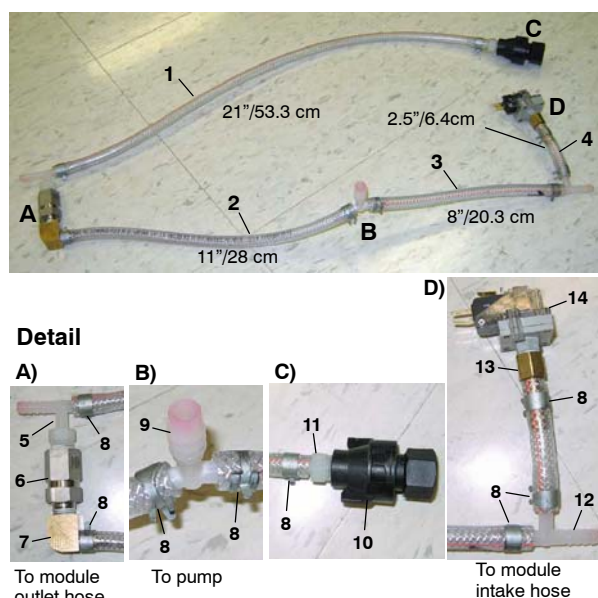

Fig. 40
9. Cut the 4 ft braided hose [p/n 578227000] into the specified hose lengths as described (ref. 1, 2, 3 & 4), then assemble the following parts as shown (Figure 40). Use thread sealer tape on all fittings.
### *ec-H2O* Solution Hose Assembly Parts List (Figure 40)